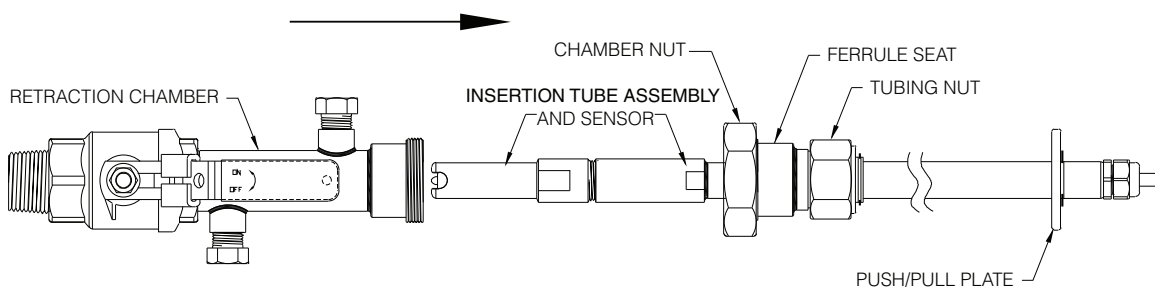

Figure 20. Removing and Replacing the Sensor
1. Refer to Figure 20. Slightly loosen the tubing nut and pull the insertion tube assembly out of the process as far as you can. Retighten the tubing nut.